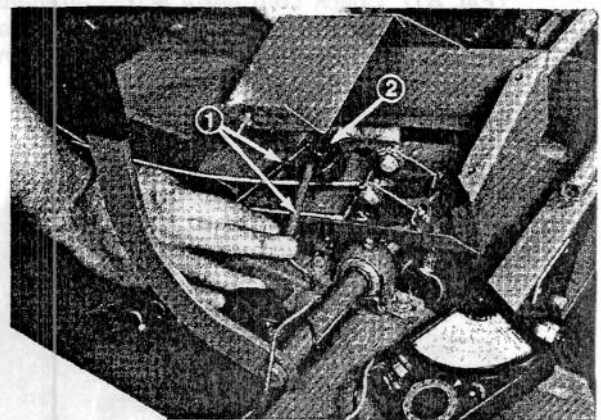

Figure 87
3. Pull connector off ignition switch. Check continuity across "M" and "G" terminals (Fig. 87 & 88) while key is in the START and RUN positions. Replace the ignition switch if it has continuity. If the switch does not have continuity, proceed to step 4.